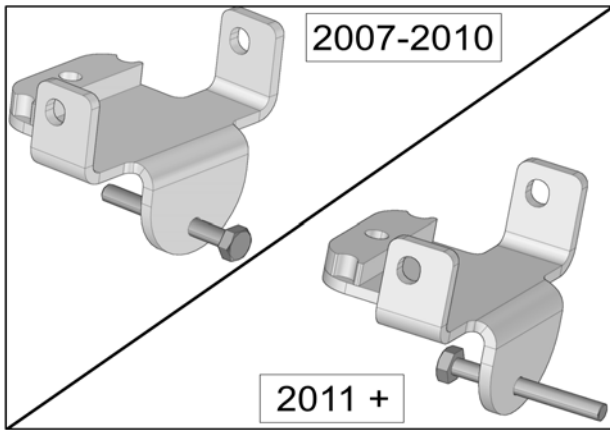

Fig. 4
- Insert the bolt in the rear anchor bracket as shown in Fig. 4